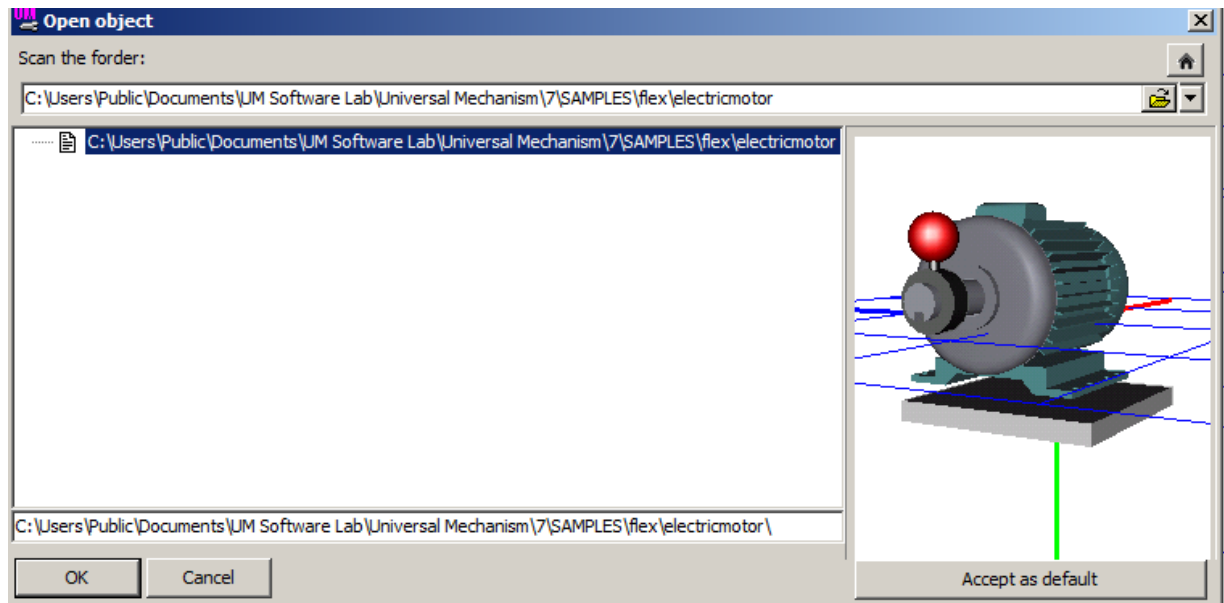

Figure 2.47.
2. Select its type **Included** and open the {UM Data}\SAMPLES\Flex\electricmotor model (Figure 2.47).